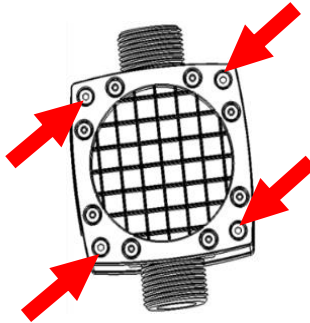

Figure 2
2. Unscrew the four M5 Allen screws on the underside of the device (*fig. 2*)